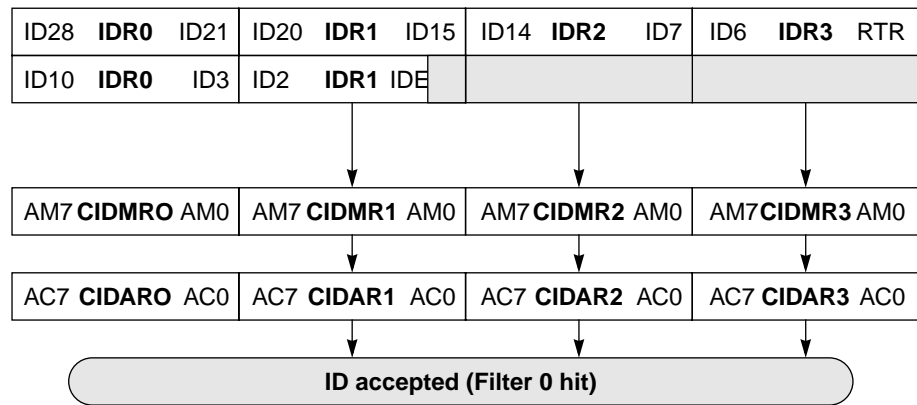

Figure 45 32-bit Maskable Identifier Acceptance Filters
- Two identifier acceptance filters, each to be applied to the full 29 bits of the identifier and to the following bits of the CAN frame: RTR, IDE, SRR. This mode implements a two filters for a full length CAN 2.0B compliant extended identifier. Figure 45 shows how the first 32-bit filter bank (CIDAR0–3, CIDMR0–3) produces a filter 0 hit. Similarly, the second filter bank (CIDAR4–7, CIDMR4–7) produces a filter 1 hit.